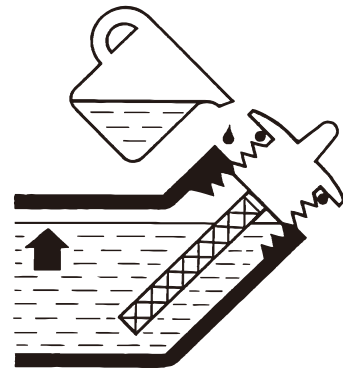

Figure 4: Engine Oil Correct Level
4. Do not overfill, if oil level is too high, oil will drain out through the fill plug. See correct oil level in Figure 4.
- The engine is filled with engine oil (see Figure 4: Engine Oil Correct Level on page 13).